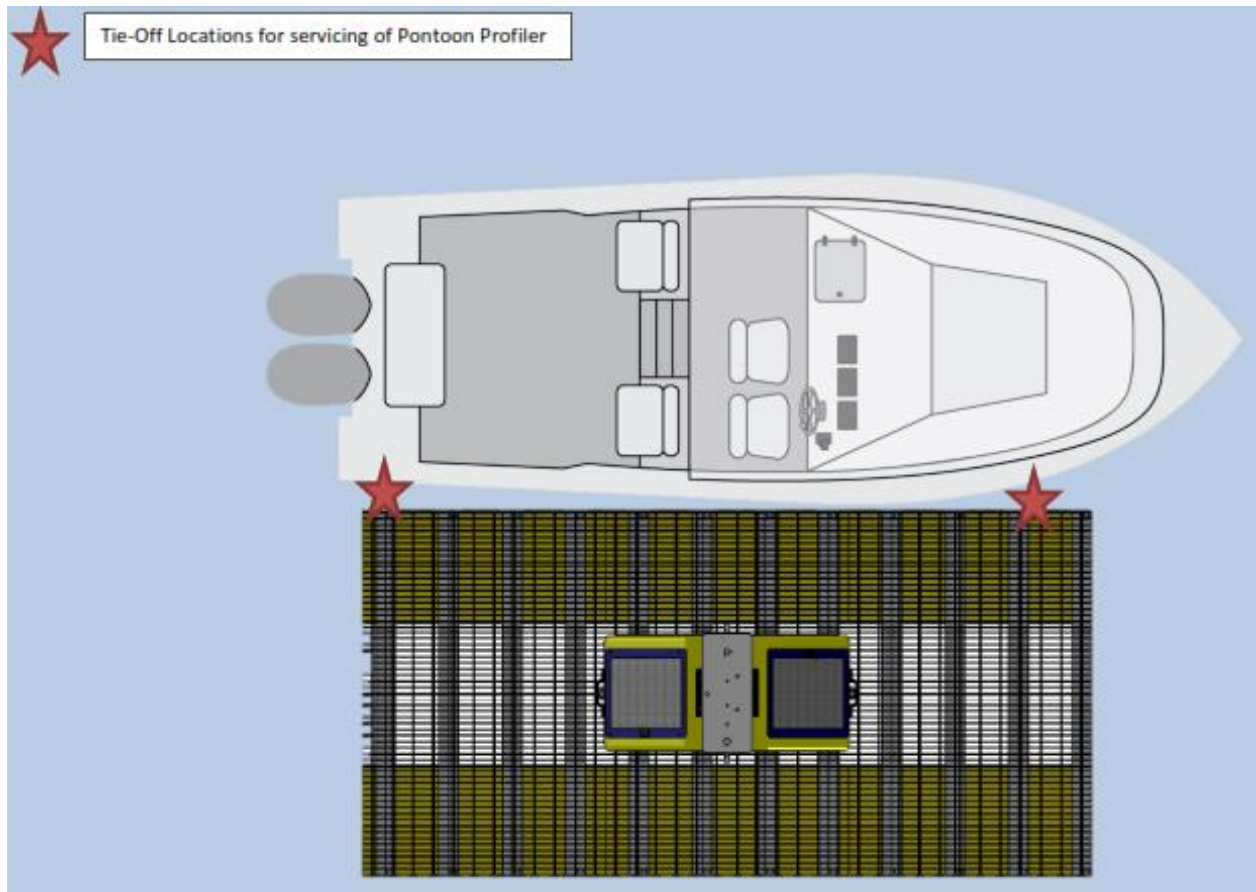

Figure 30. Tie-off Points for Servicing the AIS Buoy for Lakes (Use Only 1 Tie-off Point for River Sites)
3. Use the boat deck cleats to cinch the buoy alongside the boat, using bumpers (or spare life jackets) to protect the boat and the buoy (Figure 30). For lake sites, use both tie off points in Figure 30. For river sites, use only one tie off point. The enables a faster release to quickly respond to a Technician that falls into the river current fully dressed.